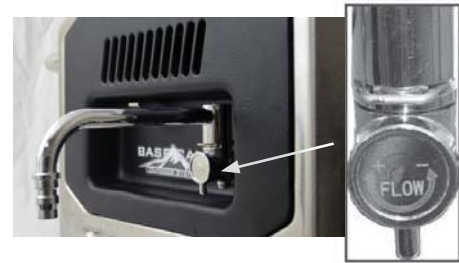

FIG. 9
- The water temperature can be adjusted by moving the "Output Temp Control Dial knob between "Min & Max" or at the "Flow" valve at the Faucet. Turning the flow dial counterclockwise will reduce the flow and cause the water temp to increase. Turning the flow dial clockwise will increase the flow and cause the water to decrease. (FIG. 9)